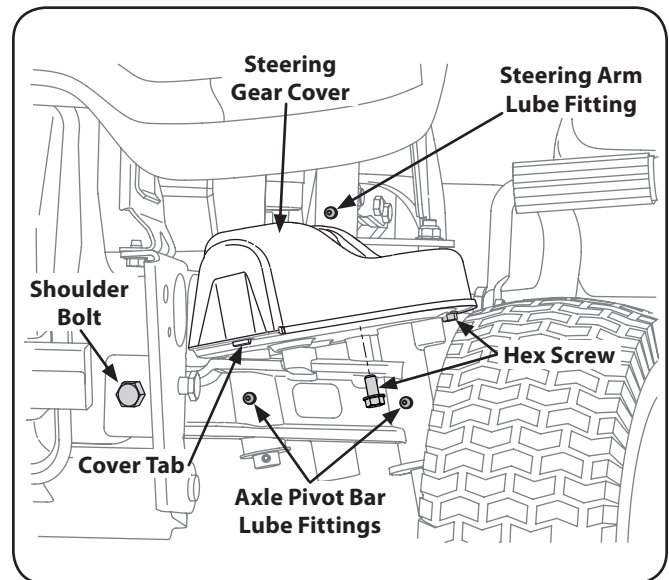

Figure 6-2
- Apply grease through the lube fitting on the RH and LH steering arms which are located at rearward end of the two steering drag links. See Fig. 6-2.
- Locate the lube for the pivot shaft and axle on the front of one end of the axle pivot bar. Apply grease through the two lube fittings, then repeat to lubricate the other end of the pivot bar. See Fig. 6-2.
- From beneath the cover base plate on each end of the pivot bar, remove the three hex screws securing the steering gear cover. Remove the covers and clean the gears. It is not necessary to lubricate the gears. Refer to Fig. 6-2.
- a. Support the pivot bar, then remove the hex lock nuts securing the two shoulder bolts that pass through the pivot bar bracket, the pivot bar, and frame. Refer to Fig. 6-2.